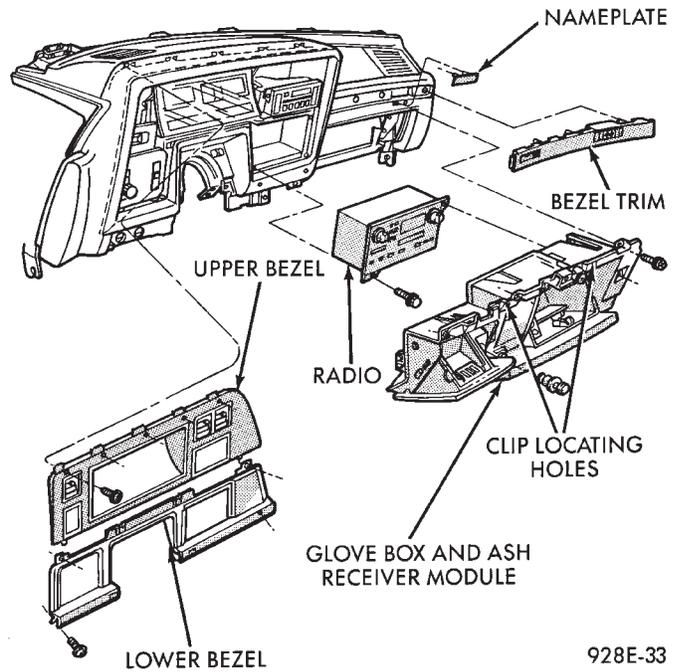

Fig. 6 Radio Assembly—AC and AY Bodies
(1) Remove four cluster bezel screws (Fig. 6).
(2) Remove two radio attaching screws.
(3) Disconnect wiring connectors and antenna cable.
(4) Remove screw attaching ground strap.